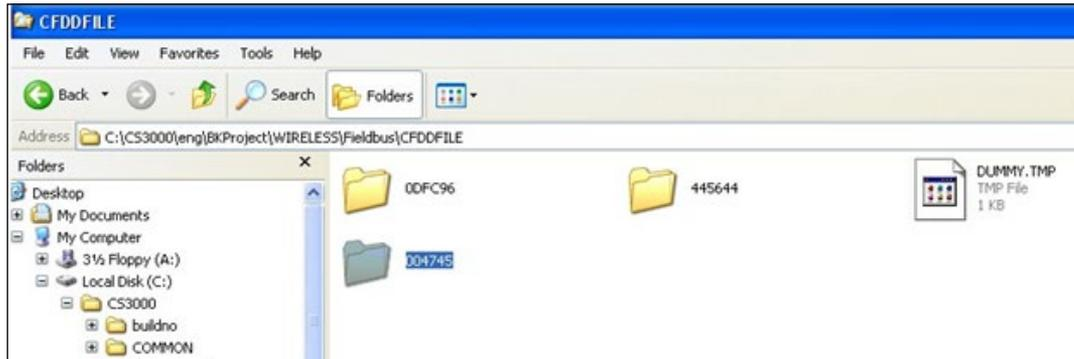

Figure 71 - Example of the Baker Hughes DD/CFF Files Location
3. Copy the path and paste it in *Windows Explorer*. The 004745 folder contains the DD/CFF files for all Baker Hughes devices (Figure 71).